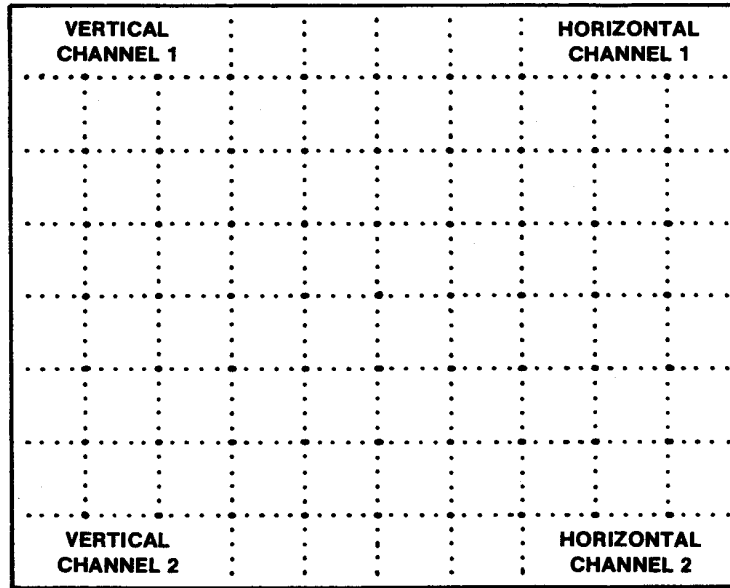

Fig. 2-3. Position of plug-in readout on the TV display.
The 7912AD can display scale factor readout from the plug-ins in TV mode as shown in Fig. 2-3. Channel 1 of an amplifier in the VERTICAL compartment is displayed as vertical channel 1. If channel 2 of a dual amplifier is selected, it is displayed as vertical channel 2. Sweep rates of a time base in the HORIZONTAL compartment may be displayed in either horizontal channel 1 or 2, depending on the plug-in.
8. After a short wait to allow the scan converter tube to warm up, increase the GRATICULE INTENSITY slowly until the graticule appears on the monitor. The TV mode graticule is shown in Fig. 2-3. Check that the DECREASE INTENSITY light does not come on. Note: If a time base without